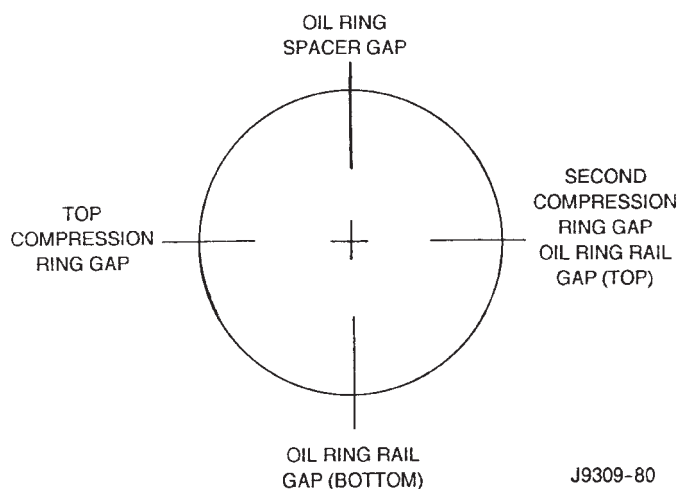

Fig. 39 Proper Ring Installation
(1) Be sure that compression ring gaps are staggered so that neither is in line with oil ring rail gap.
(2) Before installing the ring compressor, be sure the oil ring expander ends are butted and the rail gaps located properly (Fig. 39).